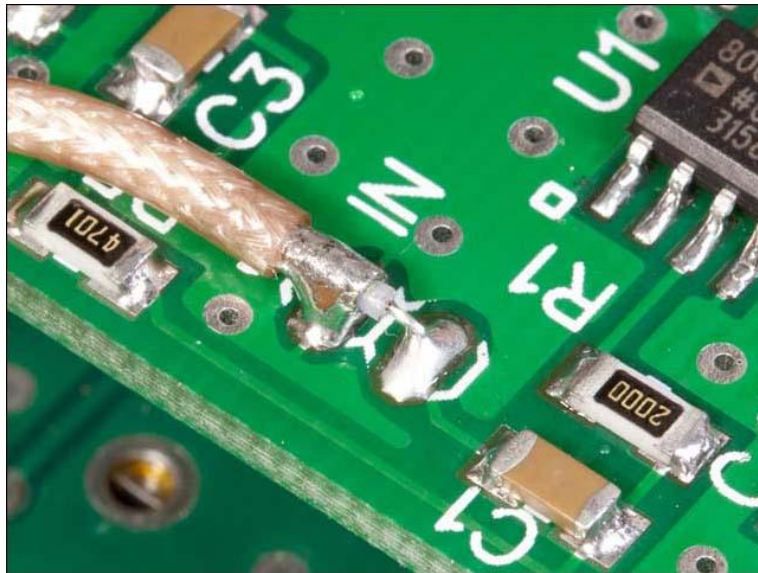

Figure 7: Coax attachment to Z10000 Buffer
11. Route an appropriate length of coax to the input connector on the Z10000 board and attach the RG-178 coax as shown in Figure 7 (below).